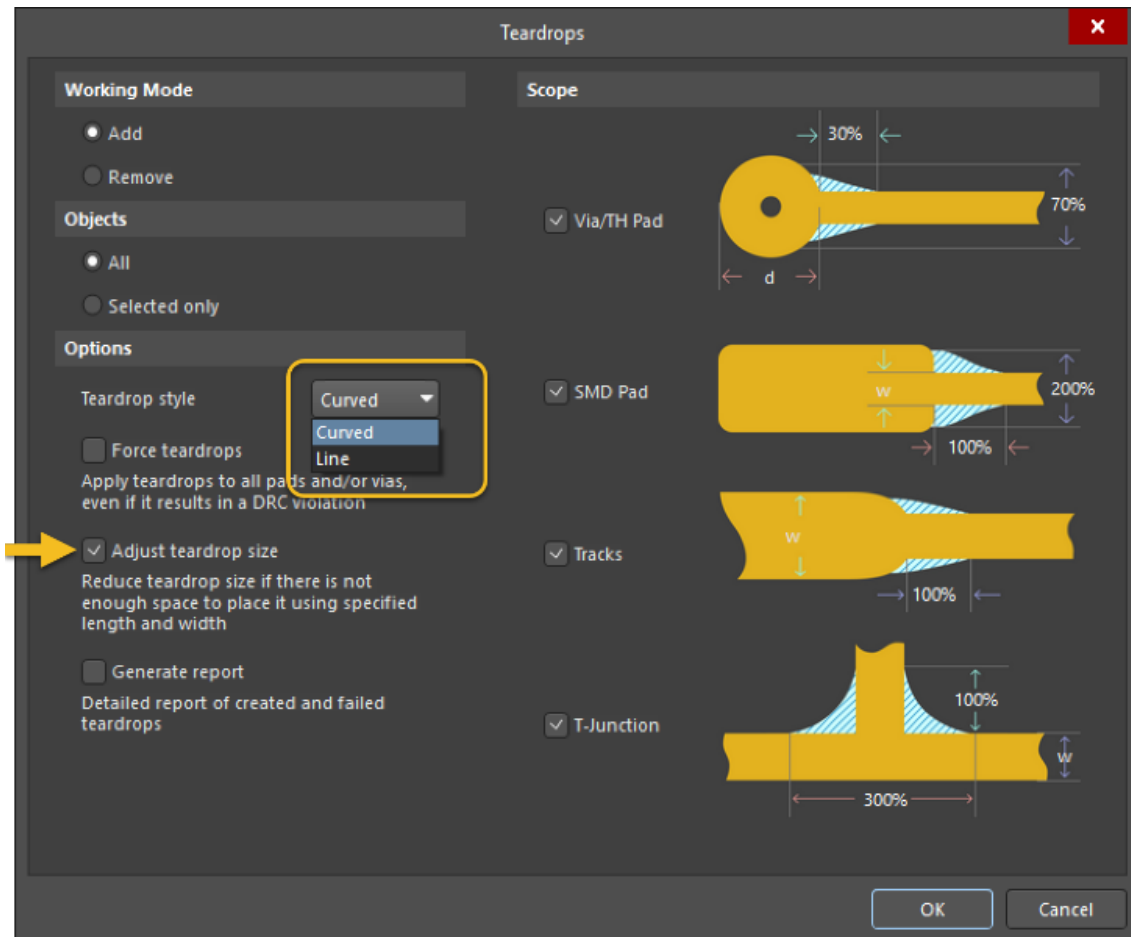

Figure 2. Teardrop Options Dialog
13. Set the *Teardrop style* dropdown menu to **Curved**, as shown in Figure 2 below. This will create arc teardrops on all applicable objects such as Vias, SMD Pads, Tracks, and T-Junctions.
14. In the *Options* dialog, enable **Adjust teardrop size** and disable all other options, as seen in Figure 2 below.